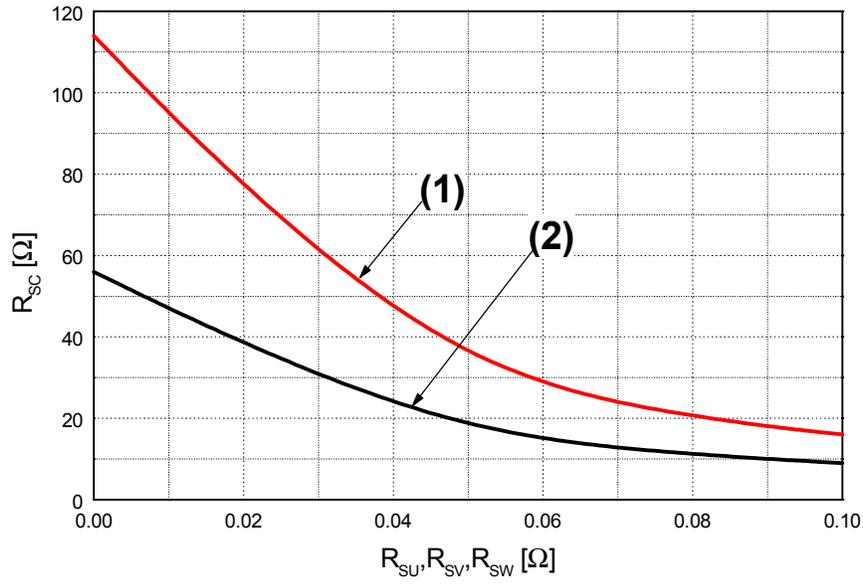

Fig. 6. R_{SC} Variation by change of Shunt Resistors (R_{SU}, R_{SV}, R_{SW}) for Short-Circuit Protection
- Short-circuit current protection is functioning only at the low-sides. It would be recommended that the value of the external sensing resistor (R_{SC}) should be selected around 56 Ω in order to make the SC trip-level of about 22.5A at the shunt resistors (R_{SU}, R_{SV}, R_{SW}) of 0Ω. For the detailed information about the relationship between the external sensing resistor (R_{SC}) and the shunt resistors (R_{SU}, R_{SV}, R_{SW}), please see Fig. 6.